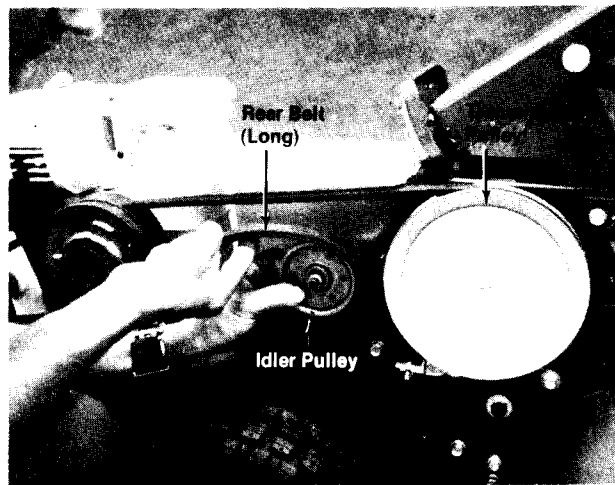

FIGURE 39.
5. Pull the idler pulley down by hand and remove the belt from idler pulley and transmission pulley. See figure 39.